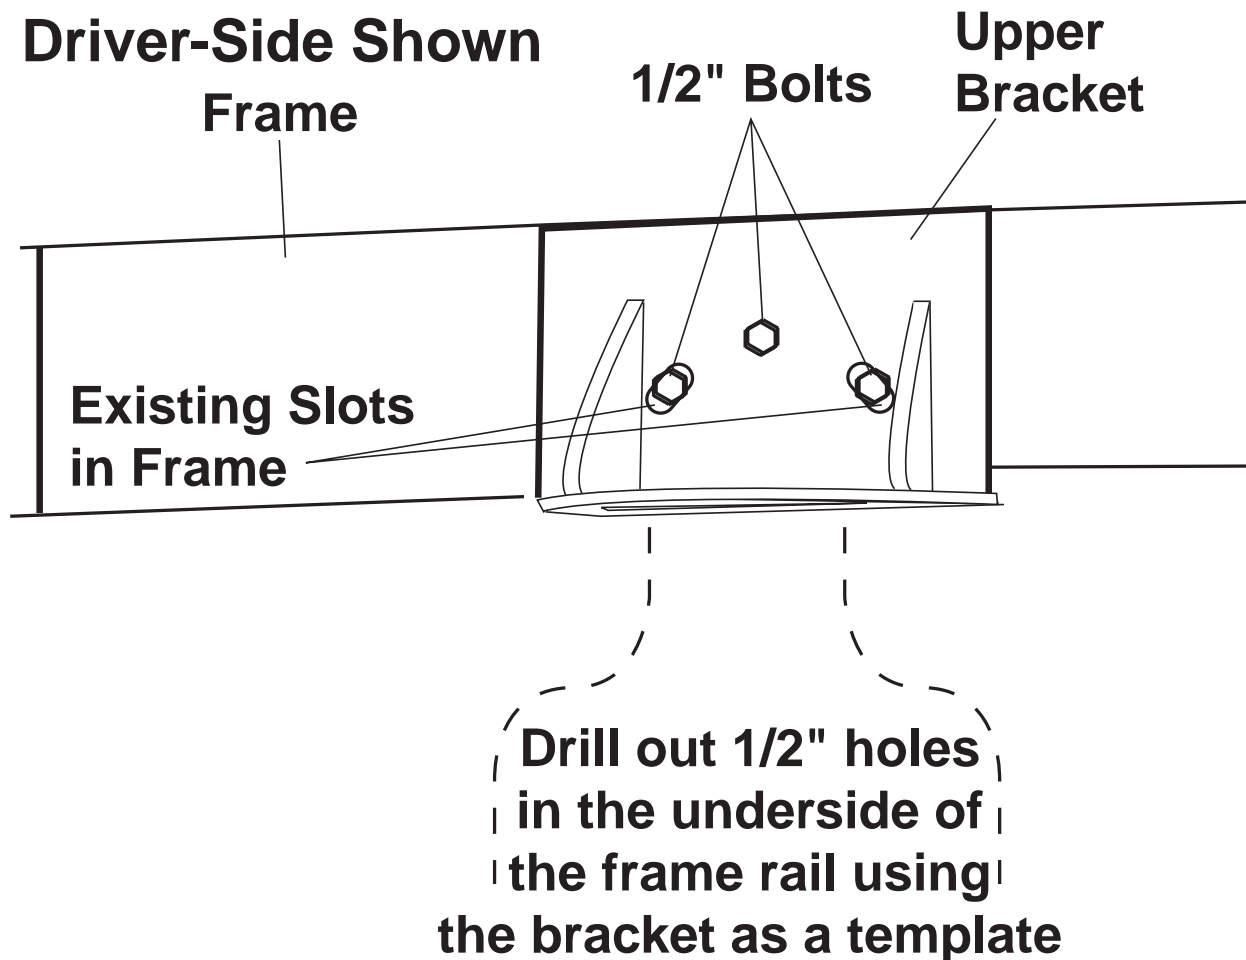

Figure 6
1. Install the driver-side frame bracket. Line up the lower set of holes in the side of the frame bracket with the slotted holes that are angled in the side of the frame. Insert two 1/2" bolts, four flat washers and two 1/2" nylock nuts. Secure the nylock nuts until snug, but do not overtighten at this time (Figure 6).
5. Insert the remaining 1/2" hardware and tighten all bolts to 107 ft.lbs. (Figure 6).